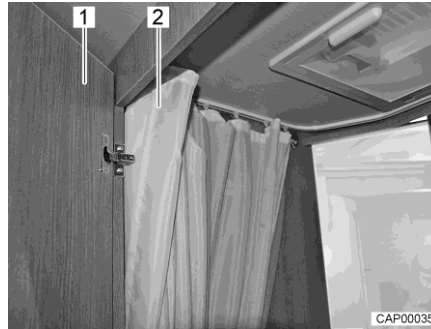

Fig. 69 Toilet compartment with shower
- For showering, close the door (Fig. 69,1) and completely close the shower curtain (Fig. 69,2) so that all walls are protected.